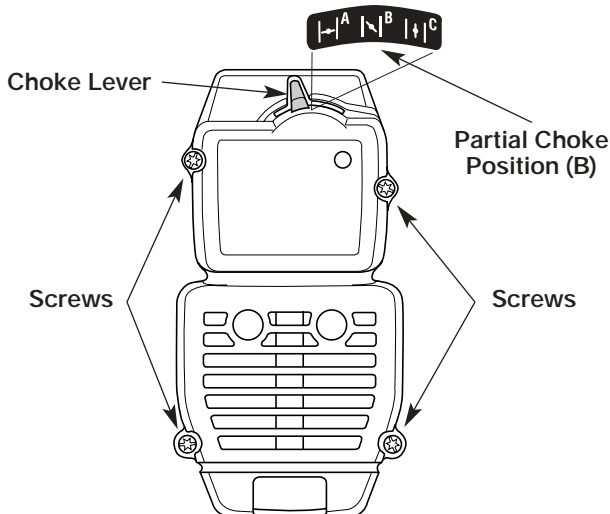

Fig. 21
1. Place the choke lever in the **PARTIAL** choke position (B).
**NOTE:** The choke lever must be in the **PARTIAL** choke position (B) to remove the air filter/ muffler cover.
2. Remove the four (4) screws securing the air filter/muffler cover (Fig. 21). Use a flat blade or T-20 Torx bit screwdriver.
2. Insert the four (4) screws into the holes in the air filter/muffler cover (Fig. 21) and tighten.